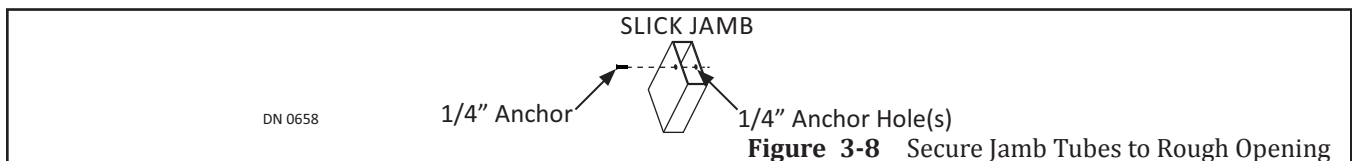

Figure 3-8 Secure Jamb Tubes to Rough Opening
8. Secure Jamb Tubes to Rough Opening accordingly. Please see Figure 3-8.